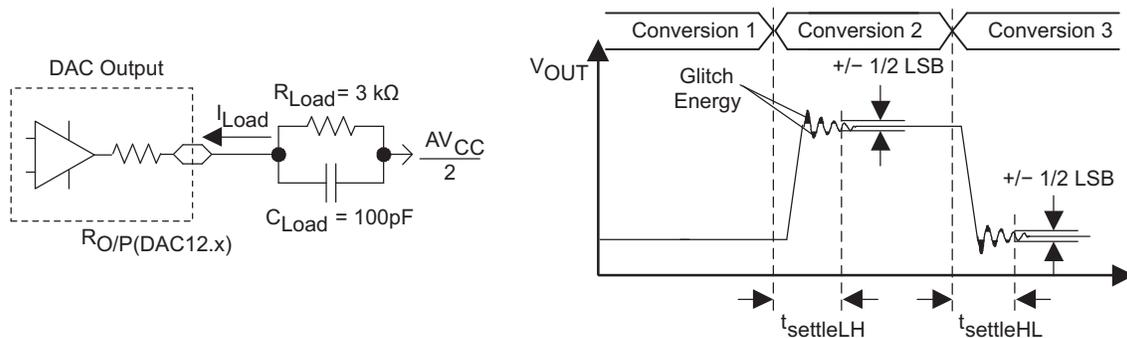
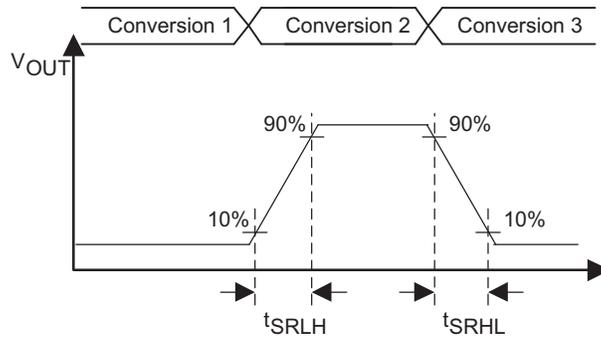

Figure 45. Settling Time and Glitch Energy Testing
Figure 46. Slew Rate Testing
$V_{REF} = V_{CC}$, DAC12IR = 1 (see Figure 45 and Figure 46), over recommended ranges of supply voltage and operating free-air temperature (unless otherwise noted)
| t_{ON} DAC12 on-time | DAC12_xDAT = 800h, Error $_{V(O)}$ < ± 0.5 LSB ⁽¹⁾ (see Figure 45) | DAC12AMPx = 0 \rightarrow {2, 3, 4} | | 60 | 120 | μ s |
(1) R_{Load} and C_{Load} are connected to AV_{SS} (not $AV_{CC}/2$) in Figure 45.
(2) Slew rate applies to output voltage steps ≥ 200 mV.